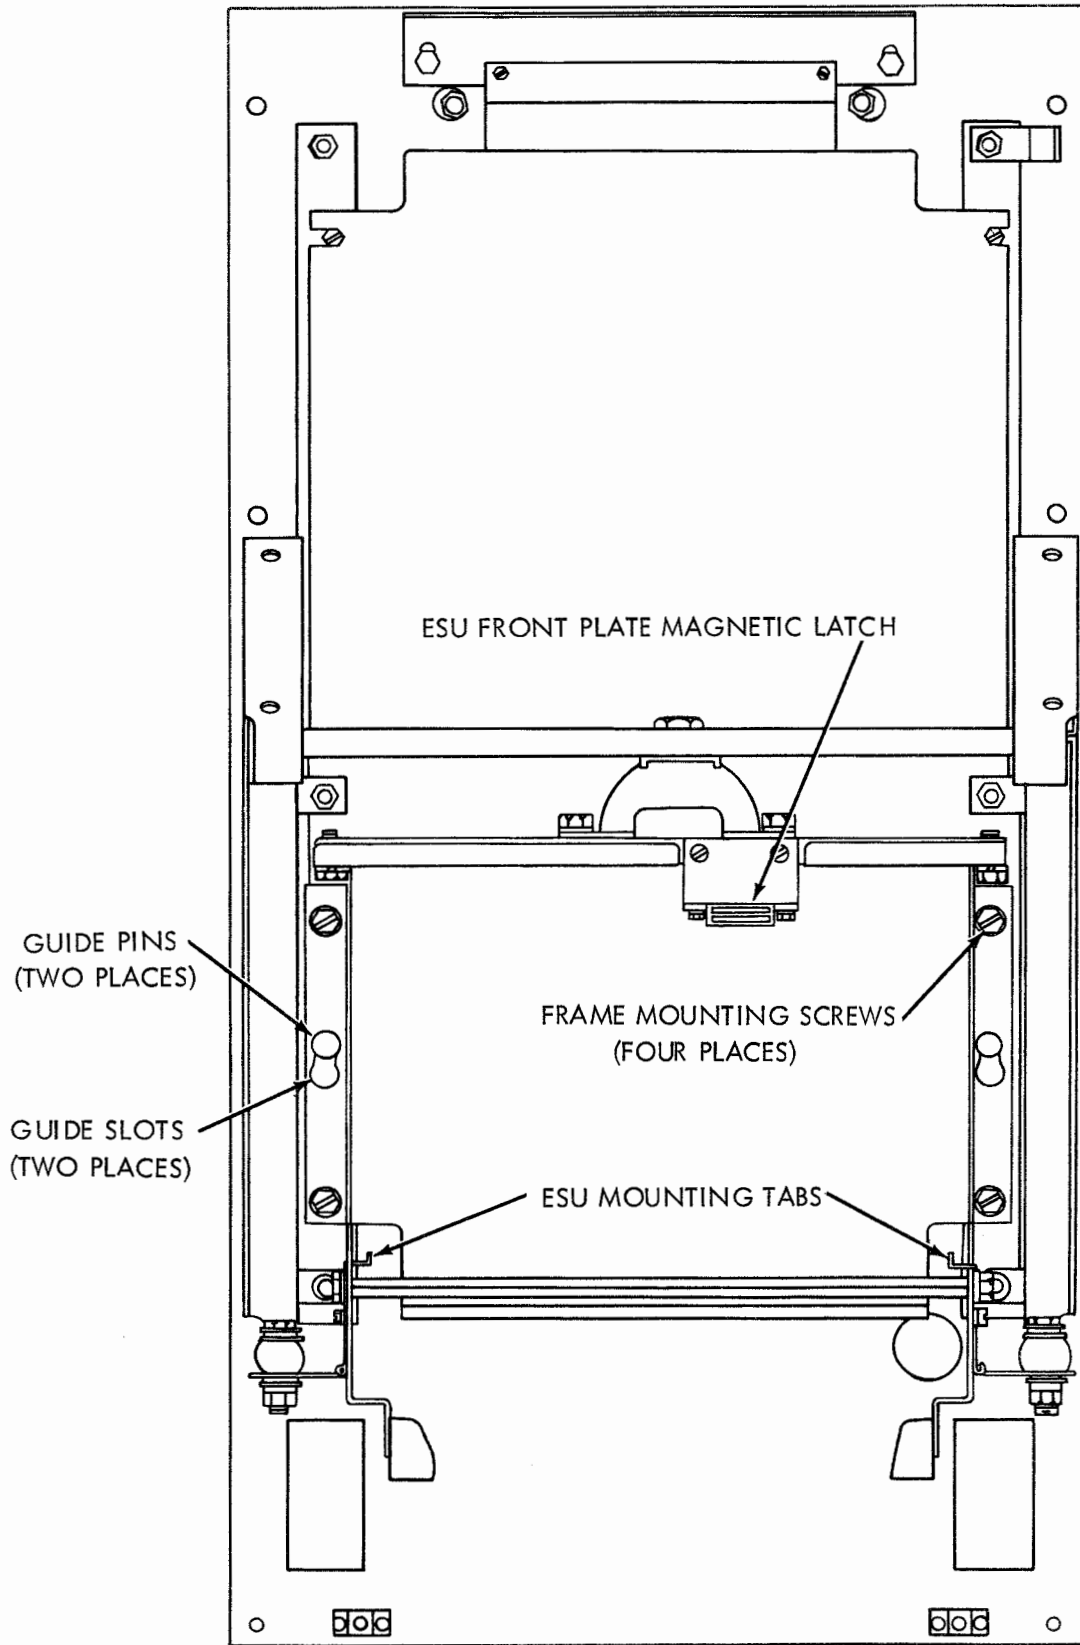

Figure 2 - Framework Mounted on Back Plate
e. If the back plate is used for locating the mounting holes on the wall, it may be more convenient to separate the framework from the back plate. This can be accomplished by loosening the four screws shown in Figure 2 and sliding the framework from the back plate assembly.
a. The lower part of the mounting frame has four projecting tabs upon which the electrical service unit rests (see Figure 2); place the service unit into the frame. The hinged front plate is held in place by a magnetic latch on the mounting frame. The plate and latch should be perpendicular to each other as gauged by eye. If necessary, loosen the screws and position the latch to meet the requirement.